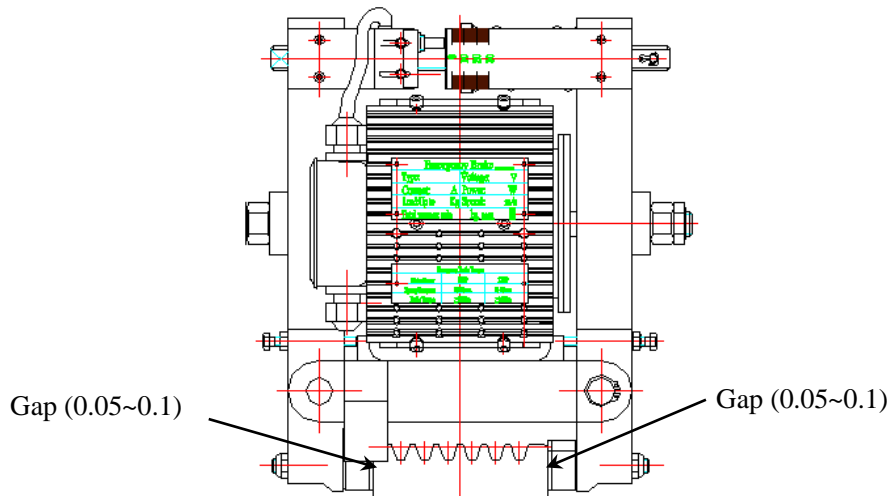

Figure 15
1. Measure the gap between the side of the drive sheave and emergency brake lining, with the feeler gauge 0.05~0.1mm (0.002”~0.004”) when the brake is open. See Figure 15. Use the 0.05 mm (0.002”) feeler gauge as a “go gauge”, and the 0.1 mm (0.004”) as a “no go gauge”.